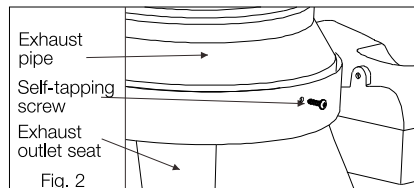

Fig. 2
2. Remove and compress the exhaust pipe. Fit the end with the larger diameter in the exhaust outlet seat. Try to compress the exhaust pipe as much as possible and secure tightly with two ST4 X 10 self-tapping screws (see Fig. 2). Turn on the power supply and the hood. Check whether the two blades are moving. Turn off the hood. The two blades will collapse automatically.